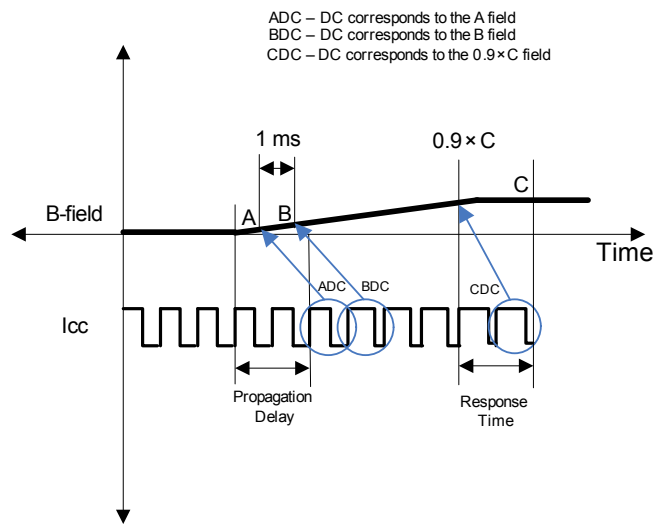

Figure 2. Definitions of Propagation Delay and Response Time
**Propagation Delay.** Traveling time of signal from input Hall plate to output stage of device. (See figure 2.)
**Response Time.** The time interval,  $t_{RESPONSE}$ , between a) when the applied magnetic field reaches 90% of its final value, and b) when the sensor IC reaches 90% of its output corresponding to the applied magnetic field. (See figure 2.)